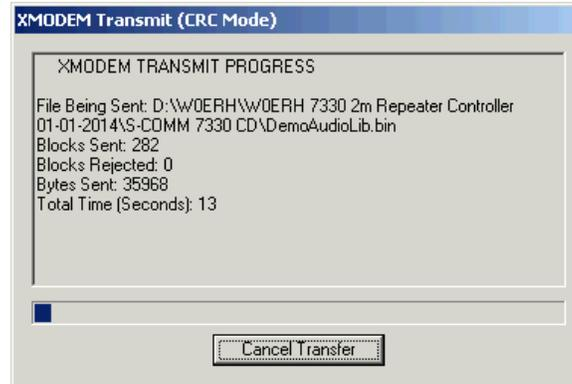

Figure 9: XMODEM Transmission Status Window
6. Once you've chosen the file, Controller Manager will immediately begin transmitting the file to the repeater controller as shown in Figure 9. Controller Manager continually updates you regarding the status of the transfer.